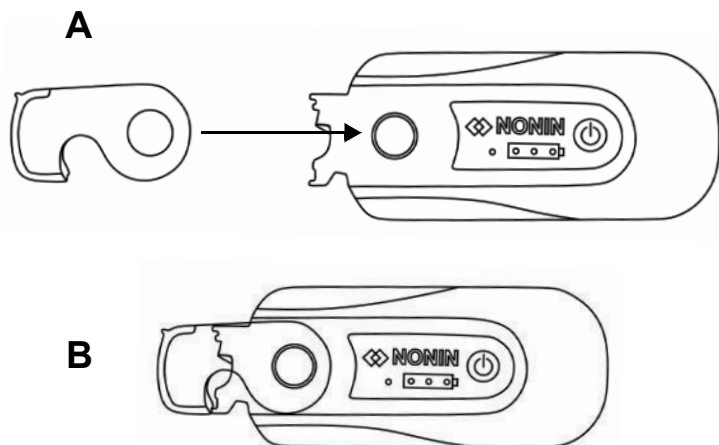

Figure 10. *Signal Processor Lock Replacement*
1. Align the lock hinge with the connector end of the signal processor. (**Figure 10.A**).
3. Click the lock into place (**Figure 10.B**).